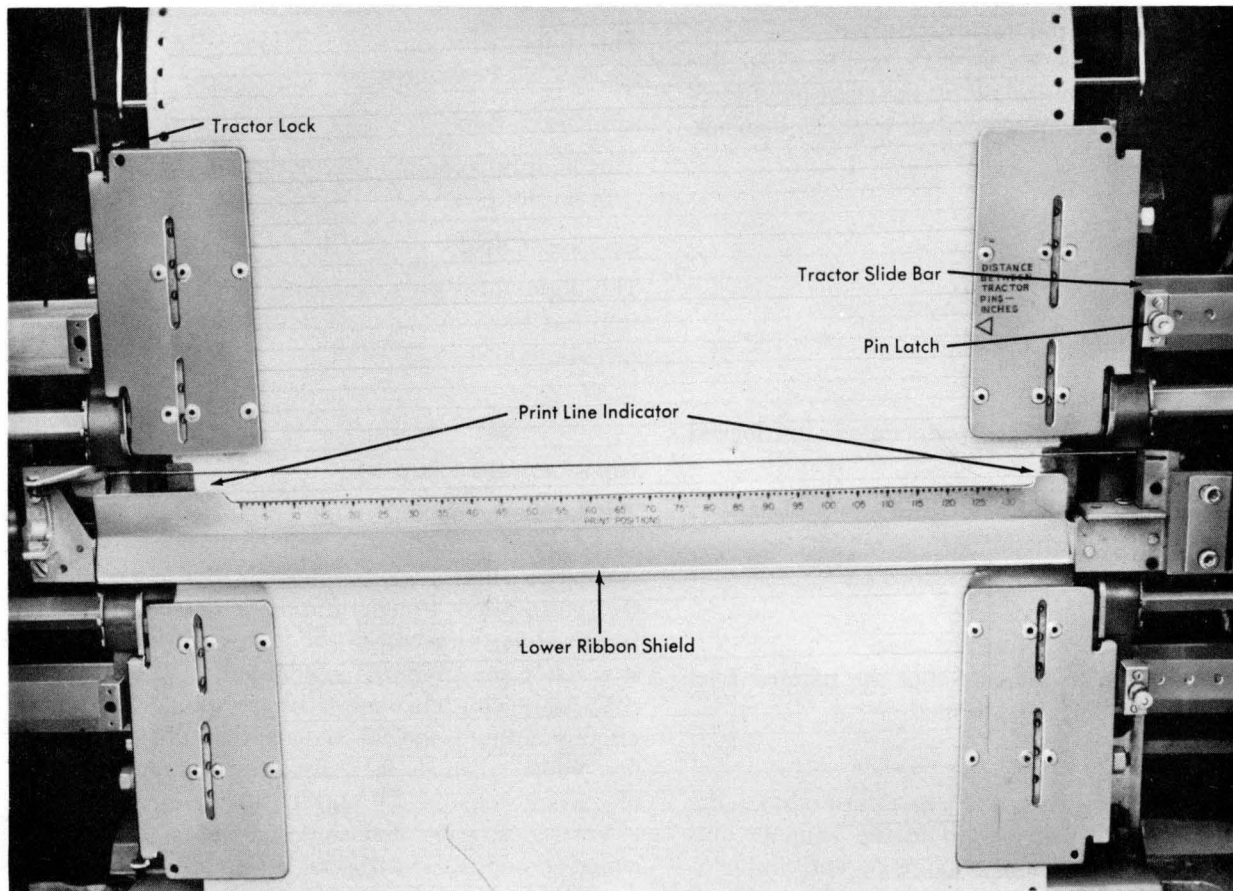

Figure 25. Print Line Indicator and Ribbon Shield
The lower ribbon shield is also used as a print line indicator. It pivots with the ribbon mechanism. The front side of this shield is marked to show print position location (Figure 25).
6. Set the left forms tractors slightly to the left of the first unit position by pulling up or down in the tractor lock (upper and lower tractor). See Figure 25.
8. Pull out on right tractor pin and move tractor to desired location to line up the right side of form. The pin should latch in one of the recesses in the tractor slide bars. See Figure 25.